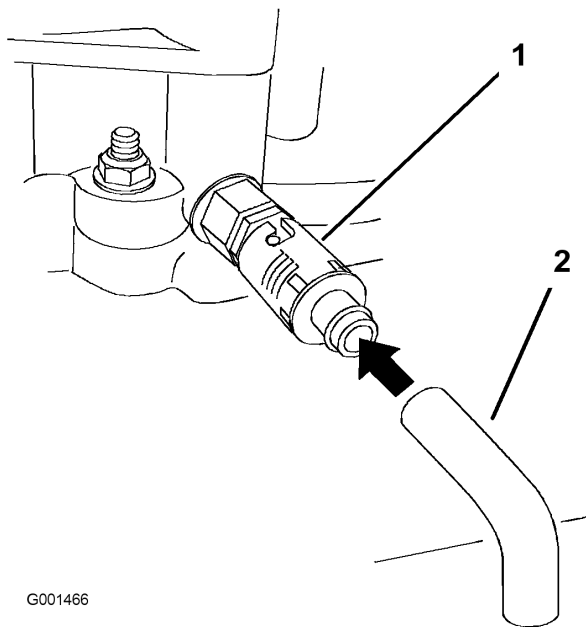

Figure 34
6. Place a pan below the drain hose. Rotate oil drain valve to allow oil to drain (Figure 34).
8. Remove the drain hose (Figure 34).